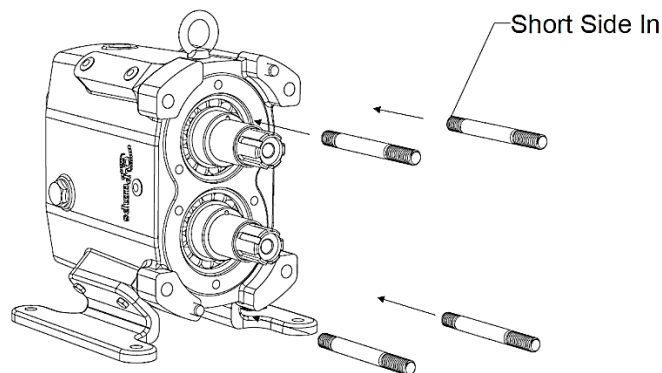

Figure 53: Gear Case Stud Installation
5) Thread the gear case studs into the front of the gear case as shown in Figure 53. Install the stud short side in.